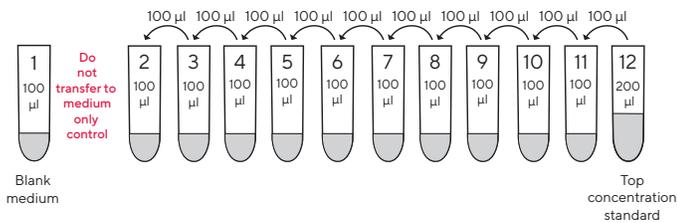
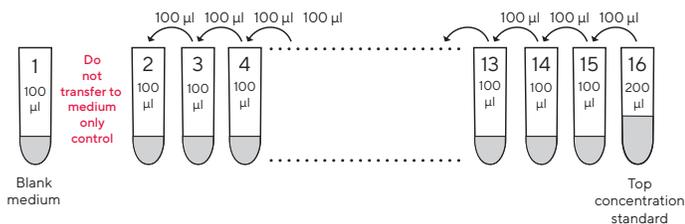

Figure 3. 96 Well Dilution Series
Figure 4. 384 Well Dilution Series
4.1 Prepare a 1:2 serial dilution (top concentration 10,000 pg/mL) of the reconstituted Cytokine Standards with fresh culture medium (**Figure 3** for 96 well and **Figure 4** for 384 well).